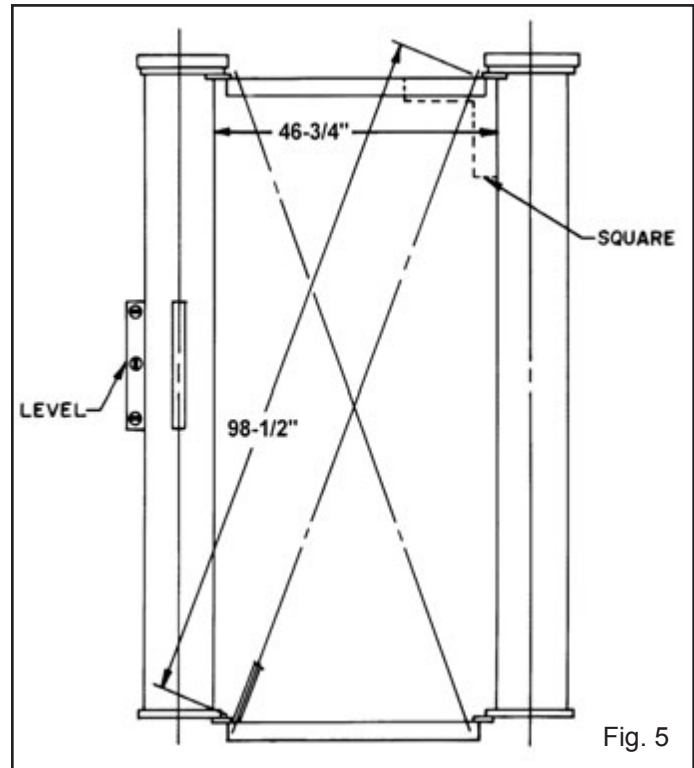

Fig. 5
- A. Position the (2) plunger-cylinder assemblies (A) on wooden horses or equivalent. Make sure that the horses are level and the rack tubes on the plunger/cylinder assemblies are facing up.
- B. Fasten the top of the plunger-cylinder assemblies together by bolting the upper brace (E) to the cylinder bolt ring using (4) hex hd. bolts (C). Fasten the bottom of the plunger-cylinder assemblies together by bolting the lower brace (B) to the cylinder bottom plate using (4) hex hd. bolts (C) and (4) washers (D). These (8) hex. hd. bolts (C) should be snug but yet allow some movement for alignment.
- C. Install the (2) tie rods (F & G) crisscross to the plunger-cylinder assemblies (A) with the turn buckles (H) toward the top.
- D. Adjust the entire assembly to the center-to-center dimensions and diagonal dimensions as shown in Fig. 5.
- E. With plunger-cylinder assemblies aligned, wrench hex. hd. bolts (C), that hold upper and lower braces, full tight.
- F. Fasten (2) pinion box end sections (K) to top of rack tube using (4) hex hd. bolts (L).
- G. Fasten pinion box center section (J) to end sections of box using (8) speed nuts (JJ) and (8) hex. hd. bolts (L).
- H. Insert square keys (V) into slots in pinion shaft (N). Using a light lubricating oil, lube pinion shaft (N) ends and pinion supports (P & Q) sleeve bearings.
- I. While holding the pinion gear (W) in the R.H. pinion support (P), insert the pinion shaft (N) thru the clearance hole in the pinion support; thru the pinion gear (W) and in thru the bearing on the far side of the pinion support.
- J. Secure the end of the pinion shaft on the outside of the pinion support using washer (T) and retaining ring (U).
- K. Repeat steps "I" and "J" for L.H. end of pinion shaft using pinion support (Q).
- M. Using (8) hex. hd. bolts (R) and (8) washers (S), fasten the complete assembly made above to the plates on top of the rack tubes. Snug The Bolts But Do Not Tighten Them.
- N. Slide the (2) racks (BB) into the pinion supports so that tooth engagement is equal to each other.
Using a 2000 pound capacity chain hoist with at least 9'-0" clear swing, lower the plunger-cylinder assembly into excavation. NOTE: Rack and pinion assembly of the lift is to be located on the same side as the direction of approach of vehicle. A rope sling around each of the plunger-cylinder assemblies is recommended. **CAUTION:** Do not lift the plunger-cylinder assembly into excavation from the center of the upper or lower braces. After plunger-cylinders have been positioned in excavation and temporarily blocked, shim under lower brace (B) to bring the top of the concrete ring (around cylinder bolt ring) flush with the final floor grade. Using a spirit level, as shown in Fig. 5, adjust each plunger-cylinder to be plumb and parallel to each other. It may be necessary to make minor adjustments to the tie rods to obtain these conditions. This operation is very important for a satisfactory Installation. Block assemblies securely after final level and plumb adjustments.